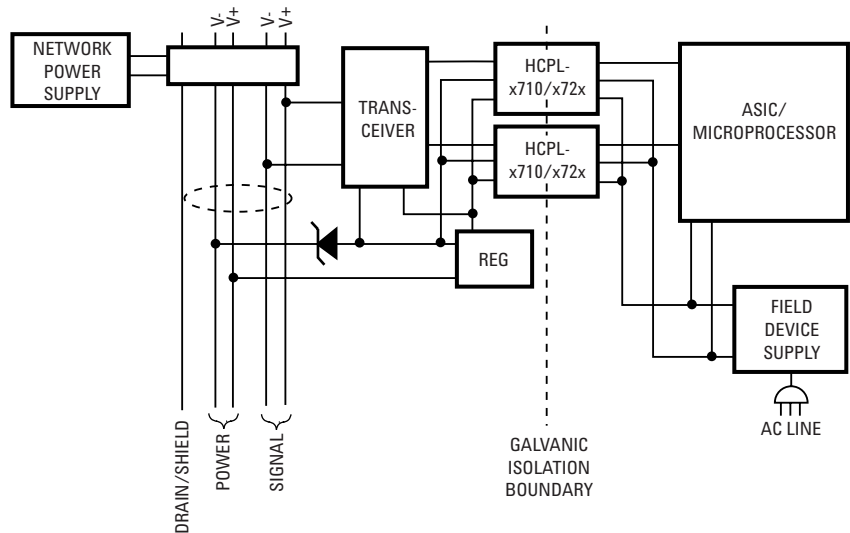

Figure 4. Isolation Node with Transceiver Powered by the Network
2. Isolation Node with Transceiver Powered by the Network (Figure 4);
Figure 4 shows when an application requires a significant amount of power. In this case, the field device is powered by the AC line source while the transceiver and isolated side of the two optocouplers are powered by the